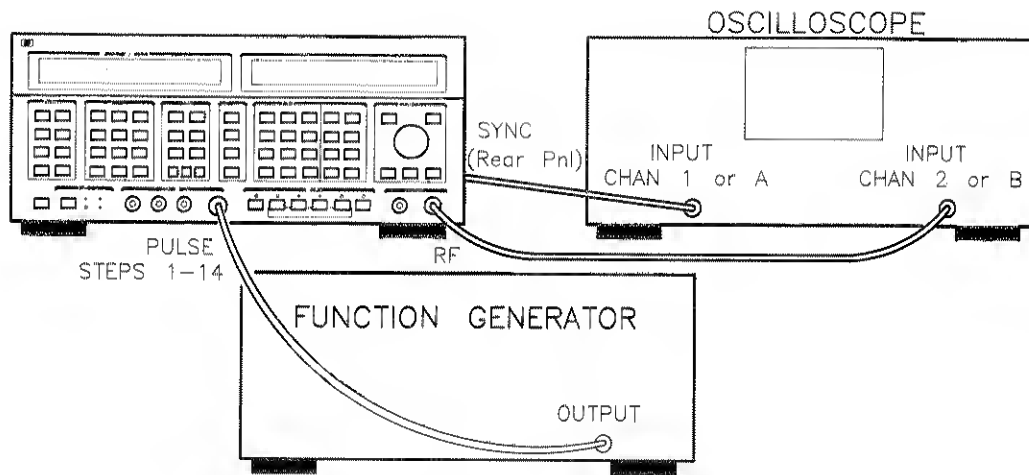

Figure 2-12. Equipment Setup for Pulse Modulation Procedure #2.
1. Connect the Signal Generator to an oscilloscope and function generator as shown in figure 2-12. Turn on the equipment, and make the following adjustments: